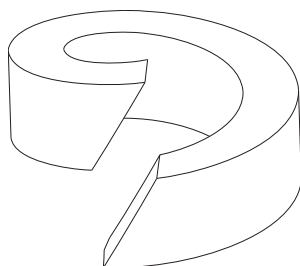

Fig. 9: Split packing ring
- When cutting the new packing von der Schnur, make sure that the ends are cut with a slant (see Fig. 9)